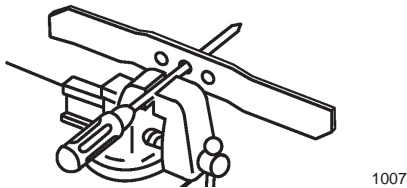

Figure 23
1. Check the balance of the blade by placing the center hole of the blade over a nail or screwdriver shank clamped horizontally in a vise (Fig. 23).